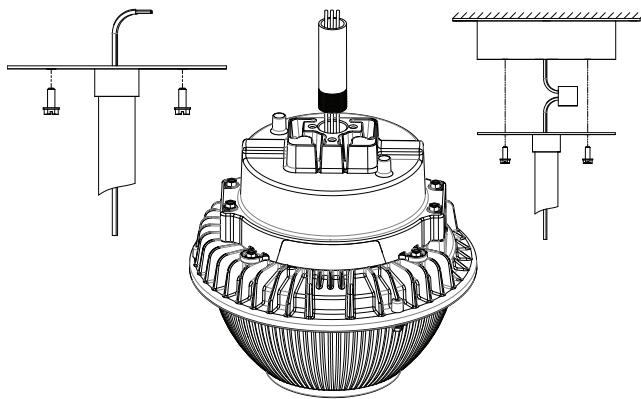

Figure 1
1. Feed wires through ¾" Rigid Pendant conduit and thread pendant conduit into fixture top housing (figure 1 - left).
3. Make necessary wire connections in the customer-provided waterproof junction box (see figure 1- right).